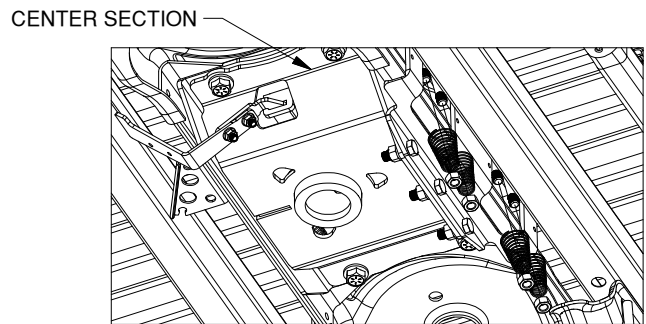

FIGURE E1: View looking up at center section.
3. **Add springs.** Place a conical spring over each leg of the U-bolts and secure with a 1/2" lock nut, see figure E1. Tighten the lock nut until the nut is flush with the end of the U-bolt.